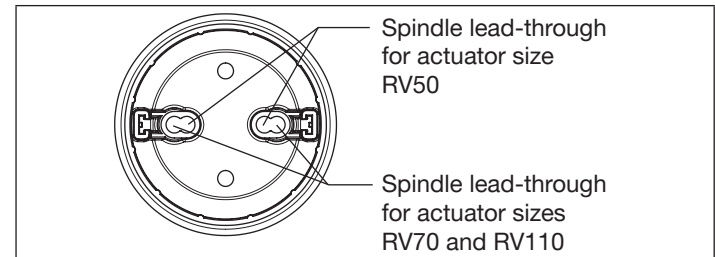

Fig. 9: Spindle lead-through
- ▶ Use only the spindle lead-through that matches the actuator size (see "Fig. 9").
→ Push the switch spindles through the matching spindle lead-throughs. The outside lead-throughs are designed for actuator size RV70/110, while the inside lead-throughs for actuator size RV50 (see “Fig. 9”).